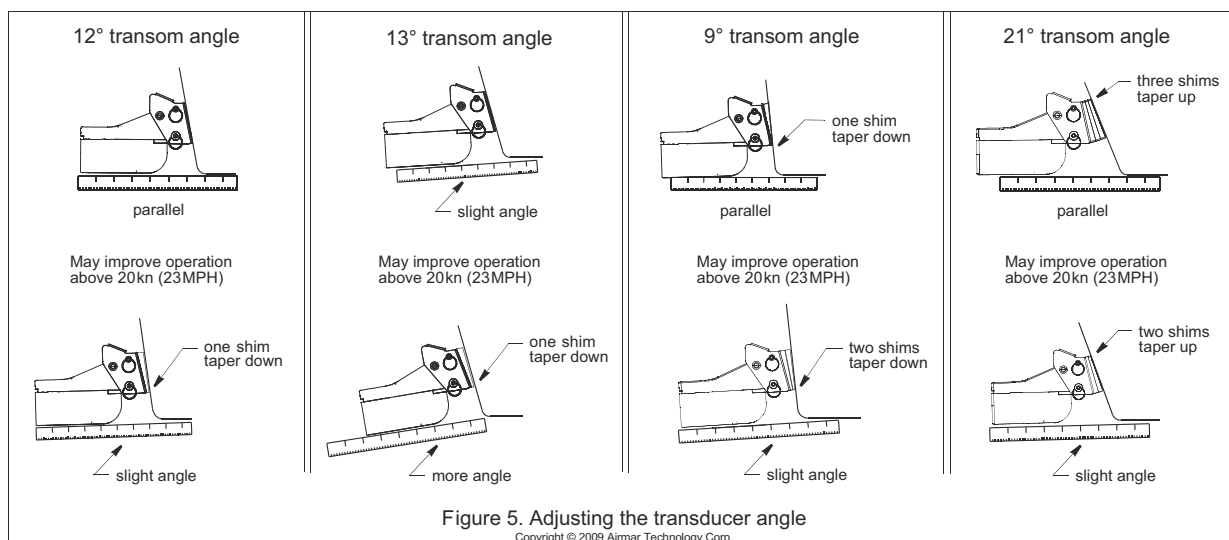

Figure 5. Adjusting the transducer angle
4. With the transducer in the operational position, Use a straight edge to sight the underside of the transducer relative to the underside of the hull (see Figure 5). The trailing edge of the transducer should be 1–6mm (1/16–1/4") below the leading edge.
- a. Increase the transducer's angle in the water. Review "Compensating for Transom Angle: Shims" and see Figure 5.